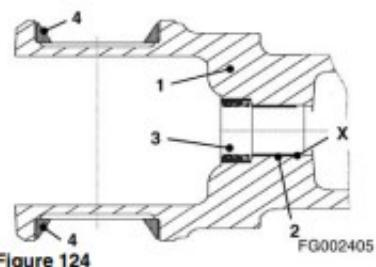
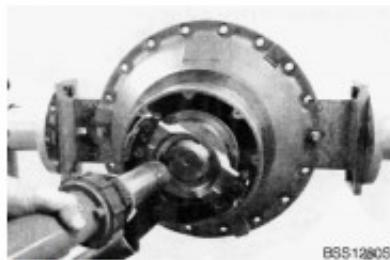

Figure 124
Figure 128
- Legend on Figure 124 - Figure 128
- Flush-mount seal ring (item 3 - See Figure 124) into axle housing hole, with seal lip showing to oil chamber.